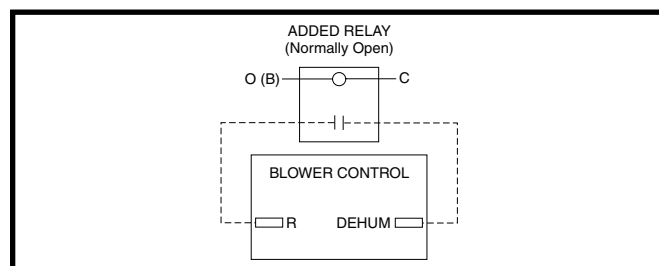

Figure 26. DEHUM Wiring Configuration without Humidistat
- If a humidistat is not available, it is an acceptable option to connect the **R & DEHUM** via a field supplied normally open relay. See Figure 26 \(page 27\). The **R & DEHUM** terminals should be connected across the normally open relay terminals. The O (B) & C terminals should then be connected across the relay coil. This option causes the blower to run at a reduced CFM for 10 minutes after a call for cooling.